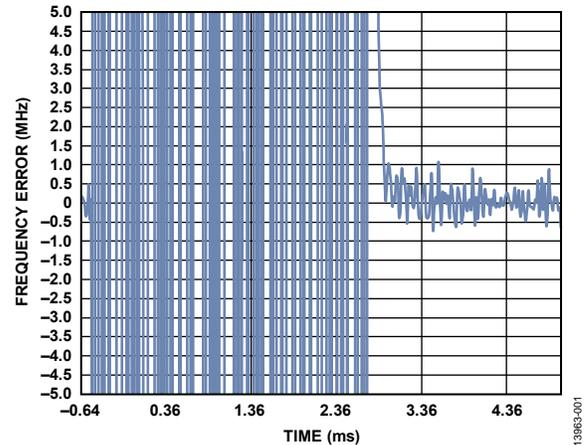
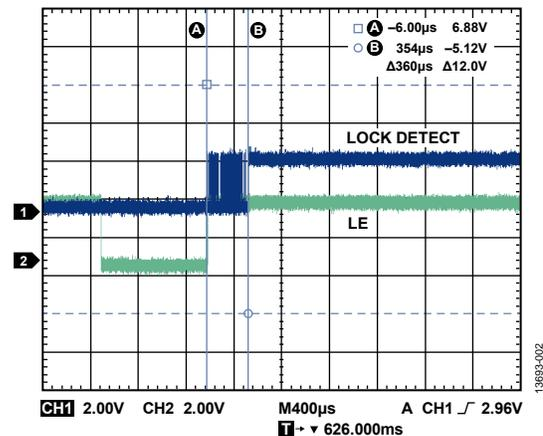

Figure 1. Lock Time with Auto Band Calibration Tested with Signal Source Analyzer
Figure 2. Lock Time with Manual Band Calibration Tested with Oscilloscope
Figure 1 and Figure 2 show the test data for the lock detect time with auto band calibration and manual band calibration, respectively. In Figure 2, a high on Line 1 (lock detect) indicates that the PLL is locked. Line 2 (LE), which is the LE pin, is a trigger. Note that the lock detect time must be read from low to high.